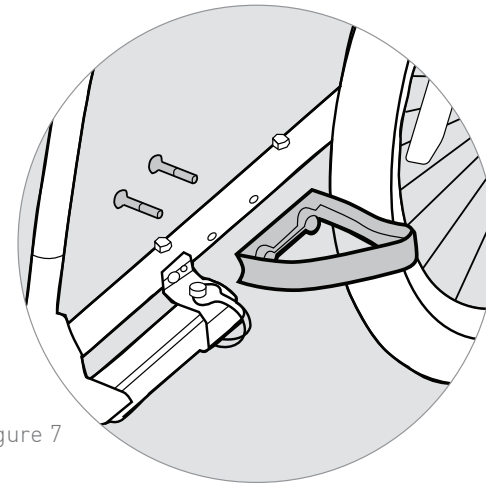

Figure 7
1. Insert wheel guard bolts through frame tube. Match holes in wheel guards to bolts. Tighten securely with hex key (Figure 7).